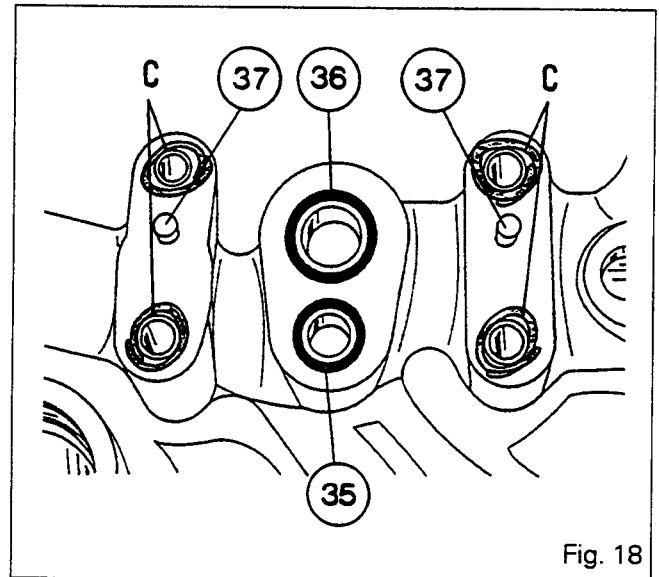

Fig. 18
88. Centre the low-pressure stage (37) and assemble the cover plate (1) according to the marks made at the time of disassembly.
89. Fit and tighten the screws (2) and (4) to a torque of 40-47 Nm.
92. Push the dowels (37) (if removed) into the cover (Fig. 18).
93. On the cover, fit new O-rings (35) and (36) in the counterbores of the high- and low-pressure channels (Fig. 18).
94. Inside the cover, apply a bead C of Loctite 575 around the four screw holes (Fig. 18).